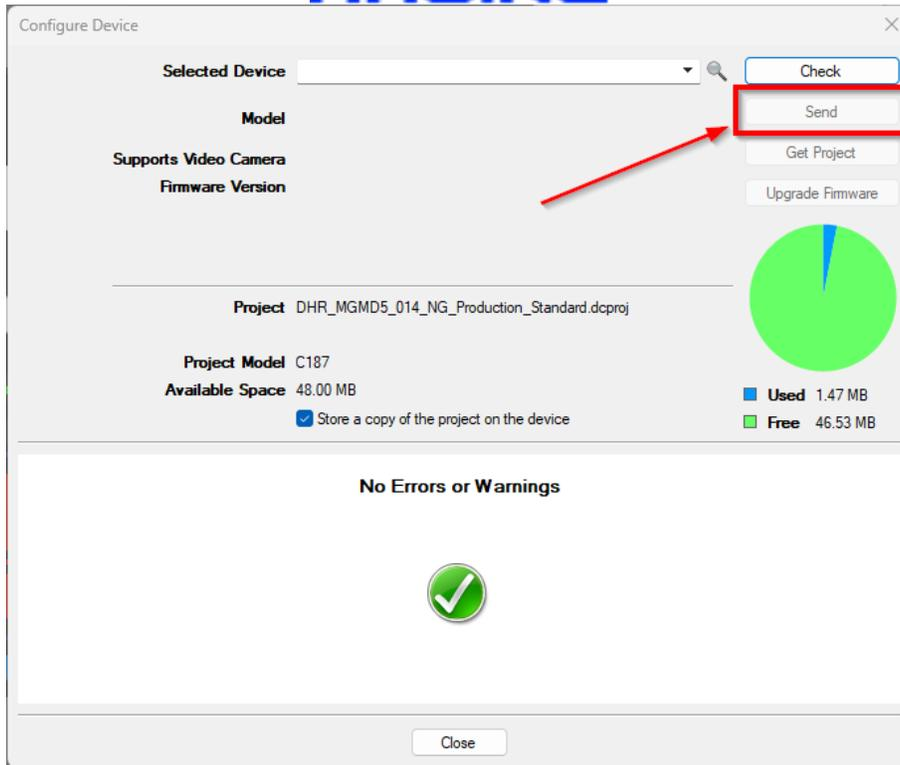

Figure 9: Display Creator – check successful and send to device.
8. When it is finished you will see the check has succeeded as shown in Figure 9. Finally, click the “Send” button and once the dash comes back online you are ready to go.